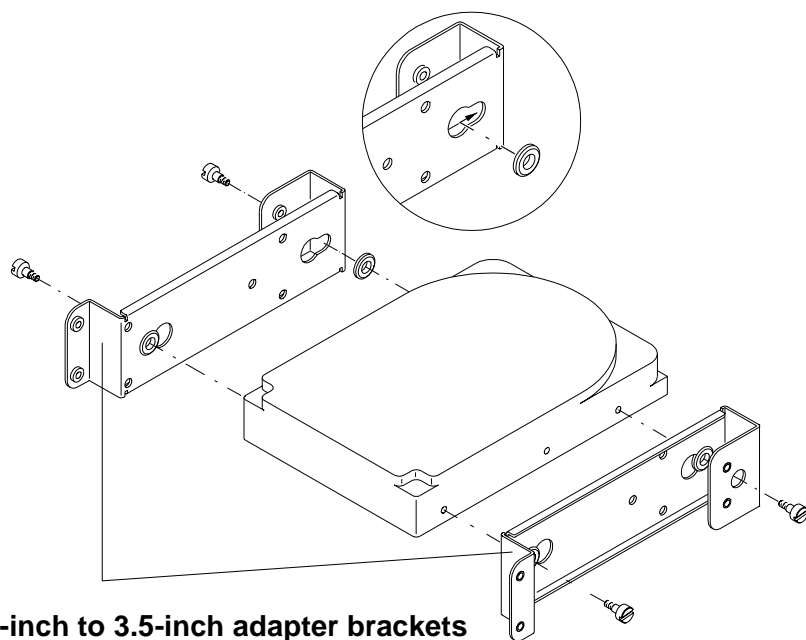

Figure 7-4 **Installing the 3.5-inch adapter brackets**
- 6** If this is a hard disk drive, place the four rubber grommets in the mounting holes, as shown in Figure 7-4.